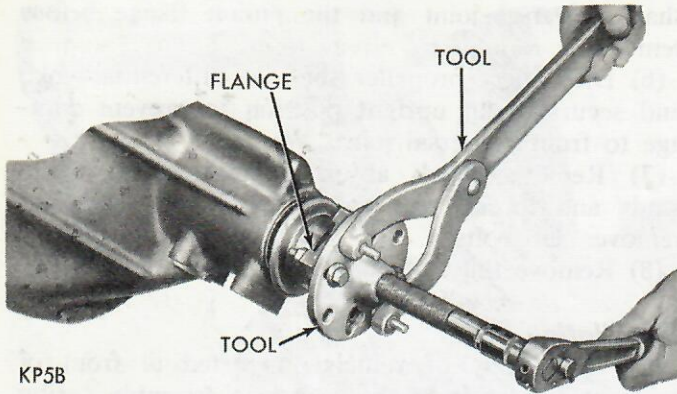

Fig. 16 Removing Companion Flange
(2) Rotate drive gear several complete revolutions while noting total indicator reading. Mark drive gear and differential case at point of maximum runout. The marking of differential case will be very useful later in checking differential case runout. Total indicator reading should be no more than .005 inch. If runout exceeds .005 inch the differential case may be damaged, and a second reading will be required after drive gear has been removed. This operation is covered during "Differential Disassembly". Remove dial indicator.
(3) With Tool C-3281 hold companion flange and remove drive pinion nut and Belleville washer.
(4) Install companion flange remover Tool C-452 and remove flange (Fig. 16).
(5) Using a screwdriver and hammer, remove the drive pinion oil seal from the carrier.
(6) While holding one hand over nose end of carrier, invert carrier in stand. The front pinion bearing cone, shim pack and bearing spacer